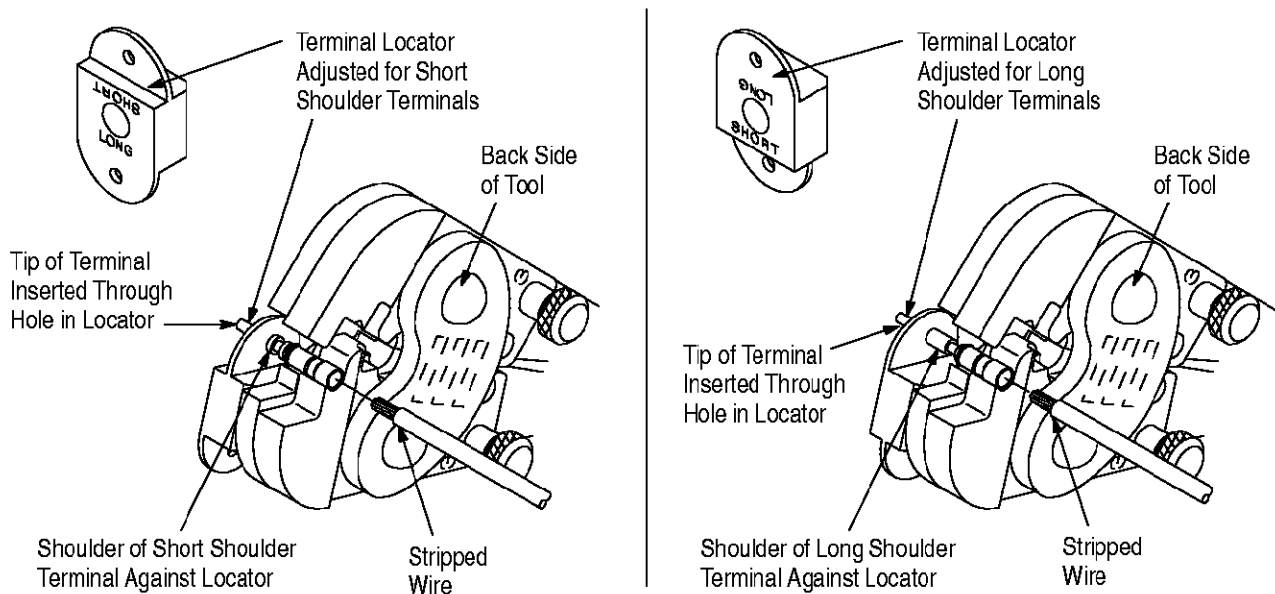

Figure 2
2. Adjust the terminal locator to accommodate the shoulder length of the terminal being crimped. See Figure 2.
5. Insert the tip of the terminal through the hole in the locator. The shoulder of the terminal must be positioned against the locator as shown in Figure 2.
7. Insert stripped wire through the insulation barrel sleeve and into the wire barrel sleeve until it bottoms. See Figure 2.